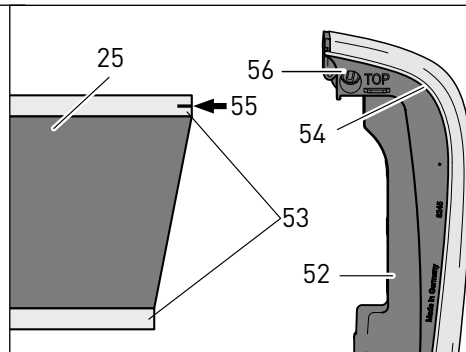
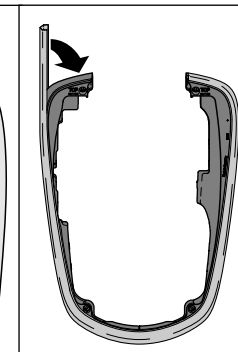
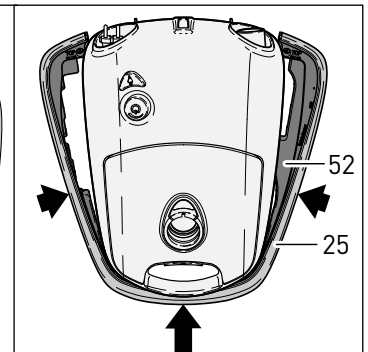

Figure 31
Figure 32
Figure 33
Fit the new AIRBELT textile (25) over the foam bumper (52) by inserting the side rails (53, figure 31) of the textile (25) into the grooves (54) of the foam bumper. The upper side rail of the textile has a mark (55, figure 31). Insert the upper side rail with the mark into the groove which is marked "TOP" (56, figure 31). Start from one end and continue fitting the textile into the grooves around the bumper (figure 32). Fit the bumper assembly to the front of the machine, then press in around the sides toward the rear (figure 33).